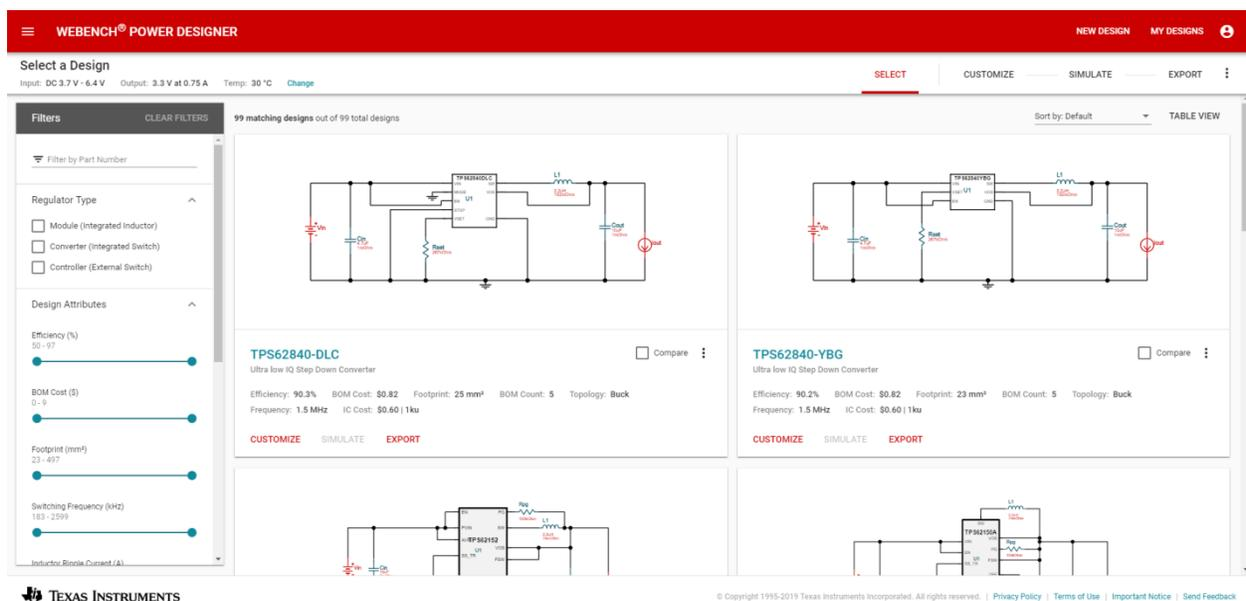

Figure 5. : The TPS62840 Displayed in WEBENCH Power Designer
- V_{IN} from 3.7 V to 6.4 V, $I_{OUT_MAX} = 0.75$ A and $V_{OUT} = 3.3$ V on the WEBENCH Power Designer Select a Design screen (Figure 5).